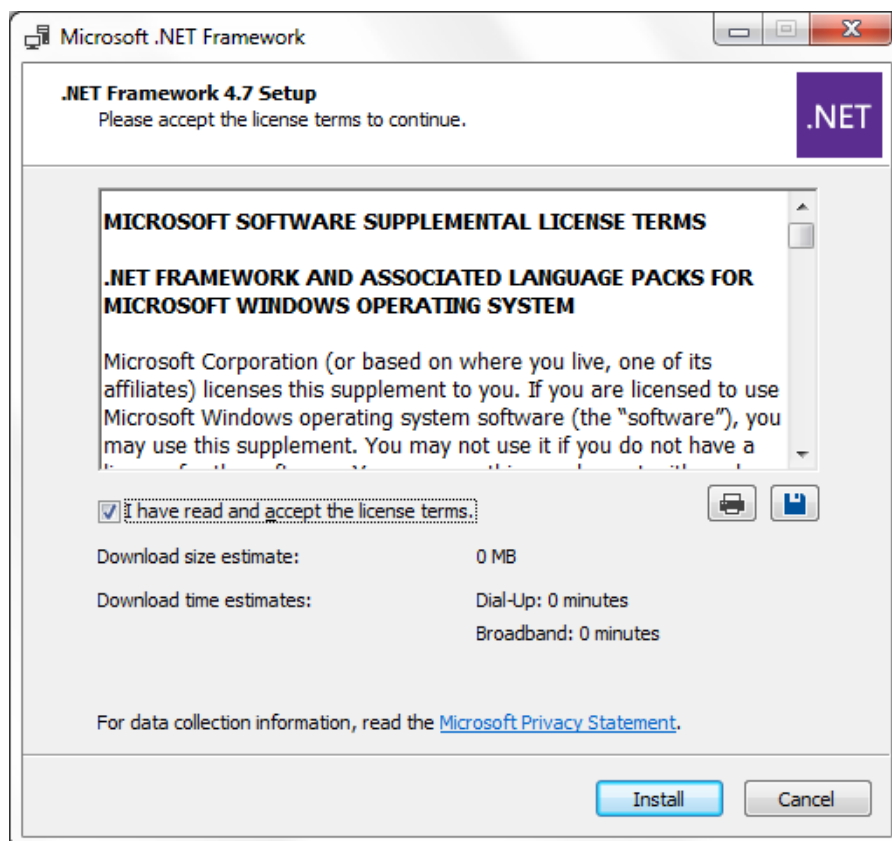

Figure III.1.23: Accept license terms of Microsoft .NET 4.7.
- Accept the license terms and click on "Install". See Figure III.1.23.